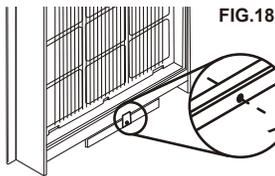

FIG.18
**20** Hook the safety bracket over the base of the unit and fasten it to the front of the platform assembly (FIG.18). Use a #8-32 x 3/4" self-threading screw.